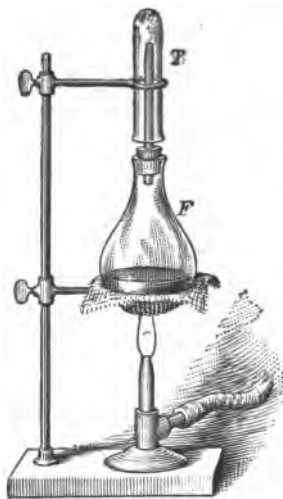

FIG. 22.
— The easiest method of obtaining ammonia is by heating its solution in water. Arrange apparatus as shown in Fig. 22. *F* is a 100 cc. flask, supported upon an iron ring-stand, and protected by wire gauze or a sand bath. *F* is fitted with a cork containing a straight, vertical delivery tube, about 6 inches long. *T* is a test-tube supported over the flask.
6. **Preparation of Ammonium Hydroxide.** — What is the source of our commercial supply? To illustrate its preparation, support a small flask upon a ring-stand as in Fig. 22. Insert a cork with a bent delivery tube, which reaches down into a bottle partly filled with water. Let the delivery tube just dip beneath the surface of the water; why? Put into the flask a mixture of about 5 g. of lime,  $\text{CaO}$ , and 10 g. of ammonium chloride,  $\text{NH}_4\text{Cl}$ , and add about 10 cc. of water. Warm gently for some time. Notice the odor of the water in the bottle after a few minutes. What is its effect upon litmus paper? What is the solution?